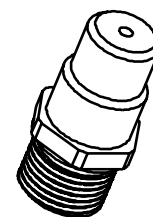

Figure 56 - Burner Orifice
- A.** Remove the orifice from the manifold and replace it with the one provided in the kit. See **Table 8** for orifice sizes for natural and propane models. **Figure 56** illustrates the orifice. Use pipe joint compound or teflon tape when installing the orifice.